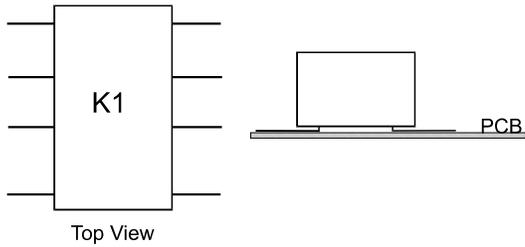

Figure 2
3. Using the component placement guide and the parts list, install all components on PCB except for R7, IC2, and D3. Keep the PCB as flat as possible during assembly. Flexing the PCB during or after assembly may fracture and destroy surface mounted components. See Figures 2,3, and 4 for proper pin prepping of K1, IC1, and R2. All components are surface mounted. Do not place any ground connection leads through any via holes! Be sure of the polarity of C4. Solder them on the top surface only. After assembly is complete, inspect the sides of the PCB for solder that may have "puddled" on the edge of the board. Remove the excess.